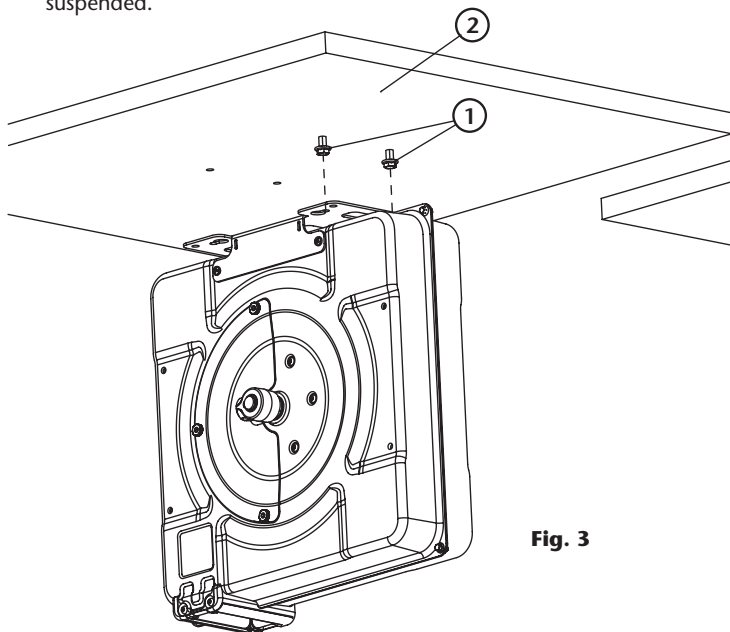

Fig. 3
- To suspend the hose reel on the mounting surface (2) (fig. 3), it is recommended first to introduce in it two M10 bolts (1) (fig. 3), with their heads slightly jutting out. Over this bolt heads, the reel can be suspended.